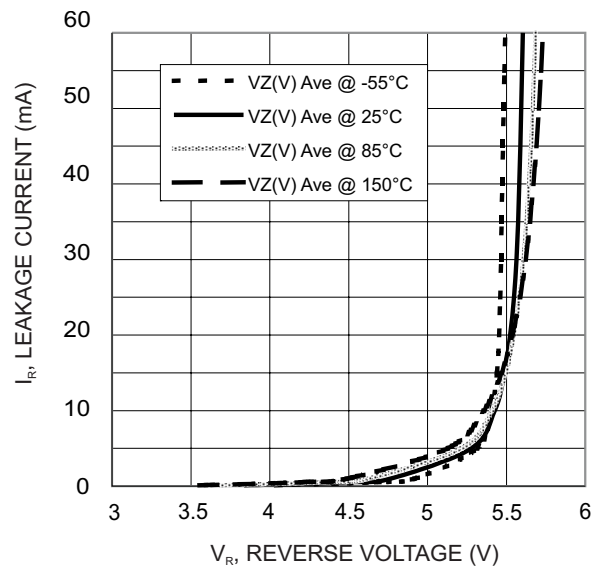

Fig. 9 Typical Reverse Characteristic
e.g. If $I_{pp}=1A$, $V_{CL} = V_z + R_d * I_{pp} = 5.6 V$ (from fig. 9) + $1A * 0.115 \text{ Ohm} = (5.6 + 0.115)V = 5.715 V$ (close to actual measured Value)